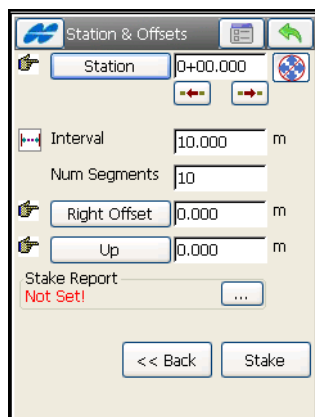

Figure 9-38. Station & Offsets
3. In the Stakeout *Sta&Ofst* screen (Figure 9-38 on page 9-28), set the station along the curve being staked, the station staking interval, the left or right offset of the stakeout point with respect to the curve, the Up/Down Height offset, the height and the type of the antenna height (GPS mode), or the height of the rod (target) (TS mode).